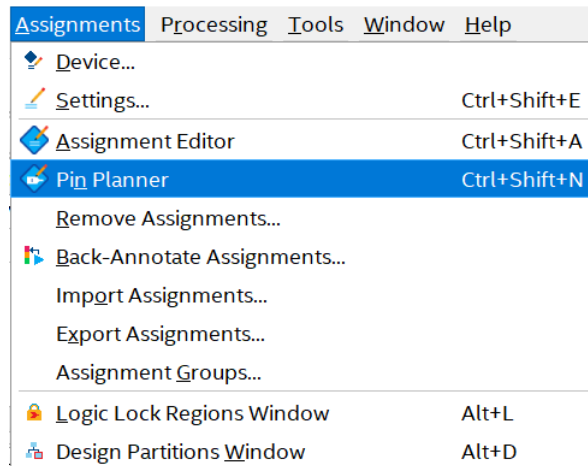

Figure 16. The Assignment Editor window.
The compilation report can be opened at any time either by selecting Processing > Compilation Report or by clicking on the icon. The report includes several sections listed on the left side of its window. Figure 16 displays the Compiler Flow Summary section, which indicates that only one logic element and three pins are needed to implement this tiny circuit on the selected FPGA chip.
1. Select **Assignments > Pin Planner** to reach the window in Figure 16.